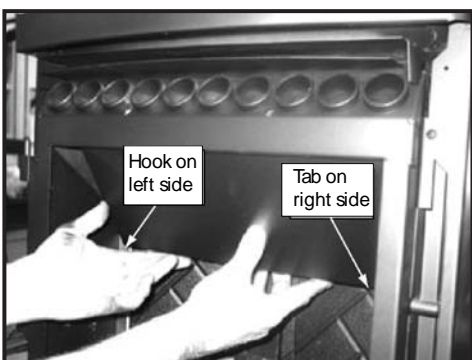

Figure 22.1
2. The top baffle has a hook on the bottom left side that rests on the top lip of the cast brick. There is a tab on the bottom right side that hooks into the side bracket. Remove the top baffle by first pulling the baffle forward until back edge drops down. Then slide baffle back until the front edge clears the shelf that it had been resting on. **Figure 22.1.**